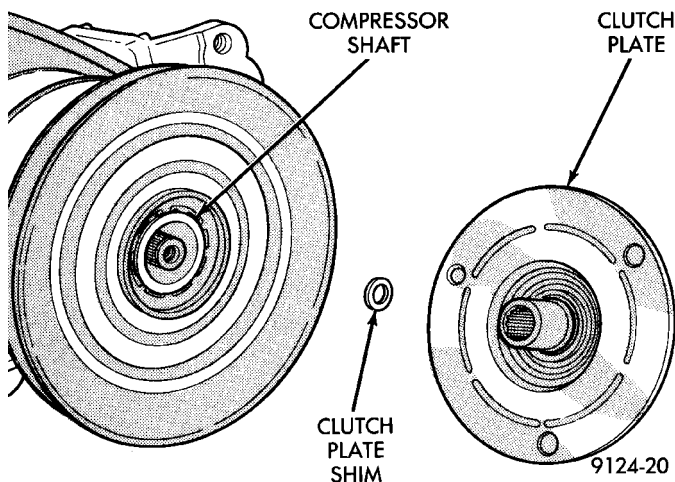

Fig. 24 Clutch Plate and Shim(s)
(2) Tap the clutch plate with a plastic hammer and remove clutch plate and shim(s) (Fig. 24).